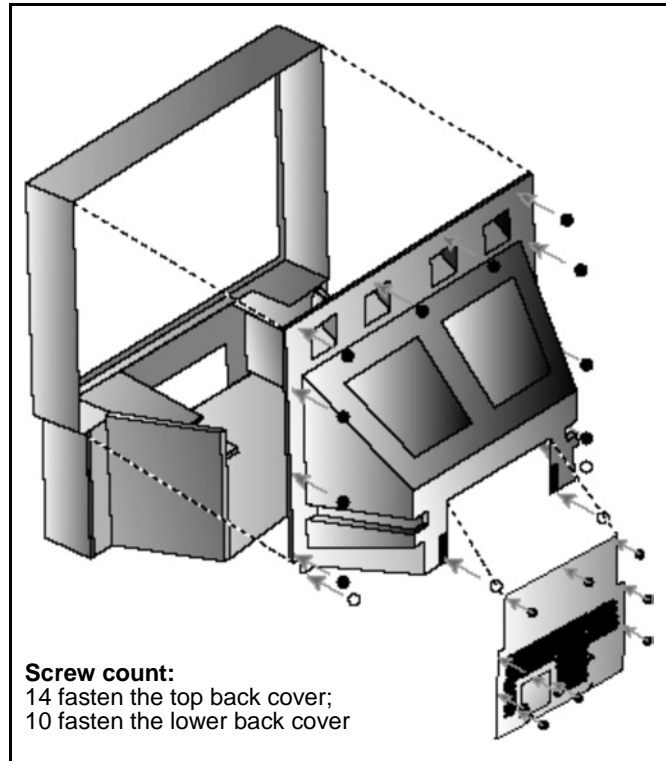

Figure 12. Lower cabinet back removal
Cabinet back lower cover removal (figure 12)
1. Remove (7) hex screws around the perimeter, marked with arrows. See figure 12 for screws location.
2. Remove (3) screws from around the A/V terminal board (marked with arrows).
Cabinet back cover removal (figure 12)
2. The top back cover (plastic shell) is secured with (14) screws around its perimeter. See figure 12 for screws location.
2. Remove the cabinet back lower cover. See figure 12.